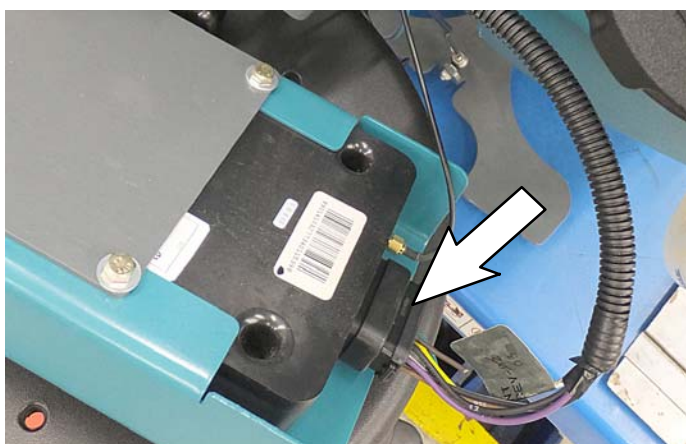

FIG. 11
10. Disconnect the telemetry harness from the IRIS module and discard old harness (FIG. 11).